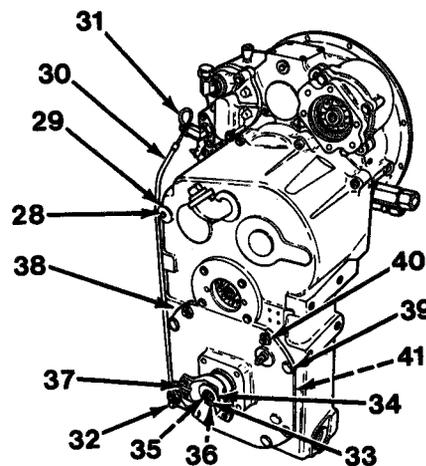
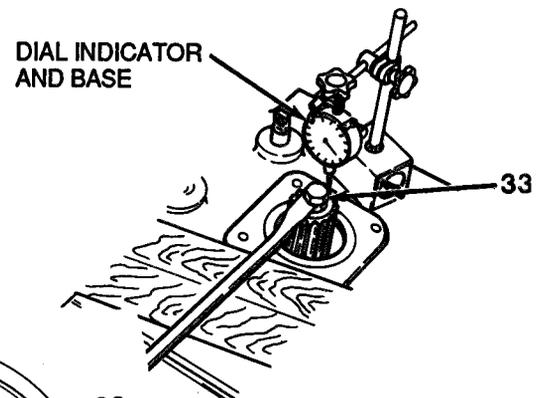
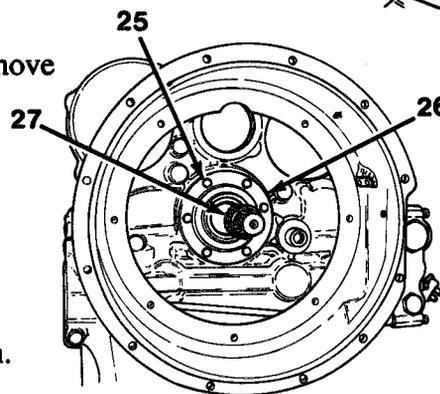

Figure 11-10
Figure 11-21
Figure 11-9
24. Install shim(s) and output disconnect group (41) and align machmarks, made during disassembly, on output cap (38, Figure 11-10) and transmission.
25. Install two nuts (40) and six capscrews (39) and torque to specifications.
26. Install capscrew (33, Figure 11-21) and tighten down halfway.
31. After correct endplay is reached, remove capscrew (33) and dial indicator.
32. Install yoke (37), new O-ring (36), shim(s) pack (35), washer (34) and capscrew (33, Figure 11-10).
33. Install elbow (32), dipstick tube (30), dipstick (31), dipstick clamp (29) and capscrew (28).
34. Install stator support tube (27), cover plate and sleeve (26) and six capscrews (25, Figure 11-9).